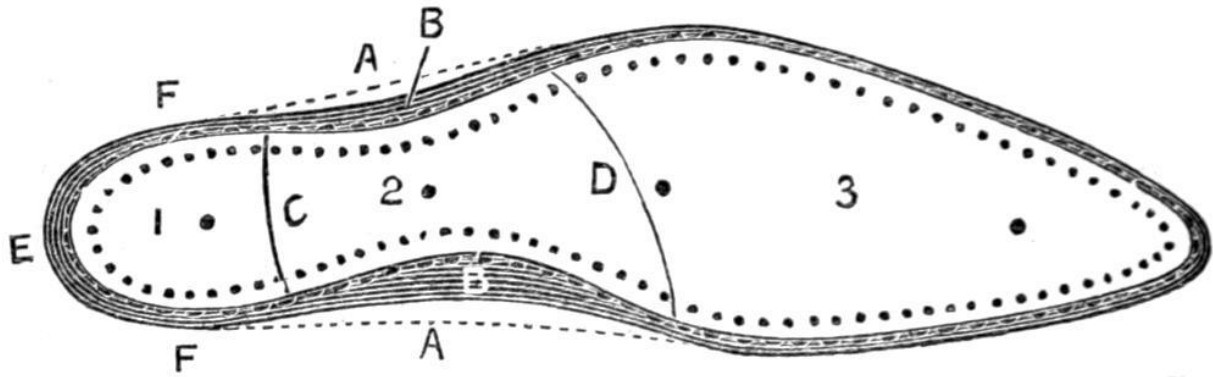

Fig. 78.—Inner Sole, Filled and Holed.
When the insoles are nearly dry, carefully take out the tacks from the edge, and with a knife round up each to the shape of the last. At the waist the insole must be trimmed narrower than the last, as shown at B B (Fig. 78), where the dotted lines, A A, represent the last.
To make the awl work better in making the holes, rub a little soap all over the leather. With a pair of compasses draw a marginal line the whole way round the sole from $\frac{1}{4}$ in. to $\frac{1}{3}$ in. from the edge, and by drawing the two cross lines C and D, divide the sole into three: the heel (1), the waist (2), and the fore part (3). The margin should be a little wider at the middle of waist, B B, particularly on the inside, the ends flowing into the regular line. The smartness of the waist depends upon this sweeping curve. According to the range and pitch of the last, see p. 103, the width of margin should be increased at the heel (Fig. 78). The more dead the last is in the waist, the more the heel will want under-seating: that is, to prevent the heel, when it has been built, from pitching on the breast, it will want to be feathered wide and sewn under at E, and feathered narrow and sewn full at F and F. This